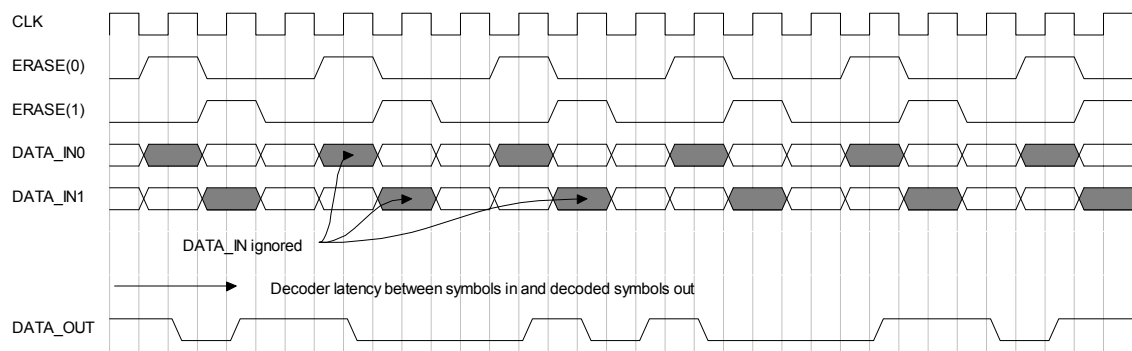

Figure 4-9: Viterbi Decoder with Erasure Input Following a Rate 3/4 Pattern
Standard, Multichannel and Dual Decoder. Erasure cannot be present on the Trellis Mode Decoder. See the timing diagram in Figure 4-9 for a decoder working with external rate 3/4 erasure. Note that DATA_IN0, DATA_IN1 are the fields on the s_axis_data_tdata bus and the ERASE(0) and ERASE(1) are on the s_axis_data_tuser bus. The output data, DATA_OUT is on the m_axis_data_tdata bus.